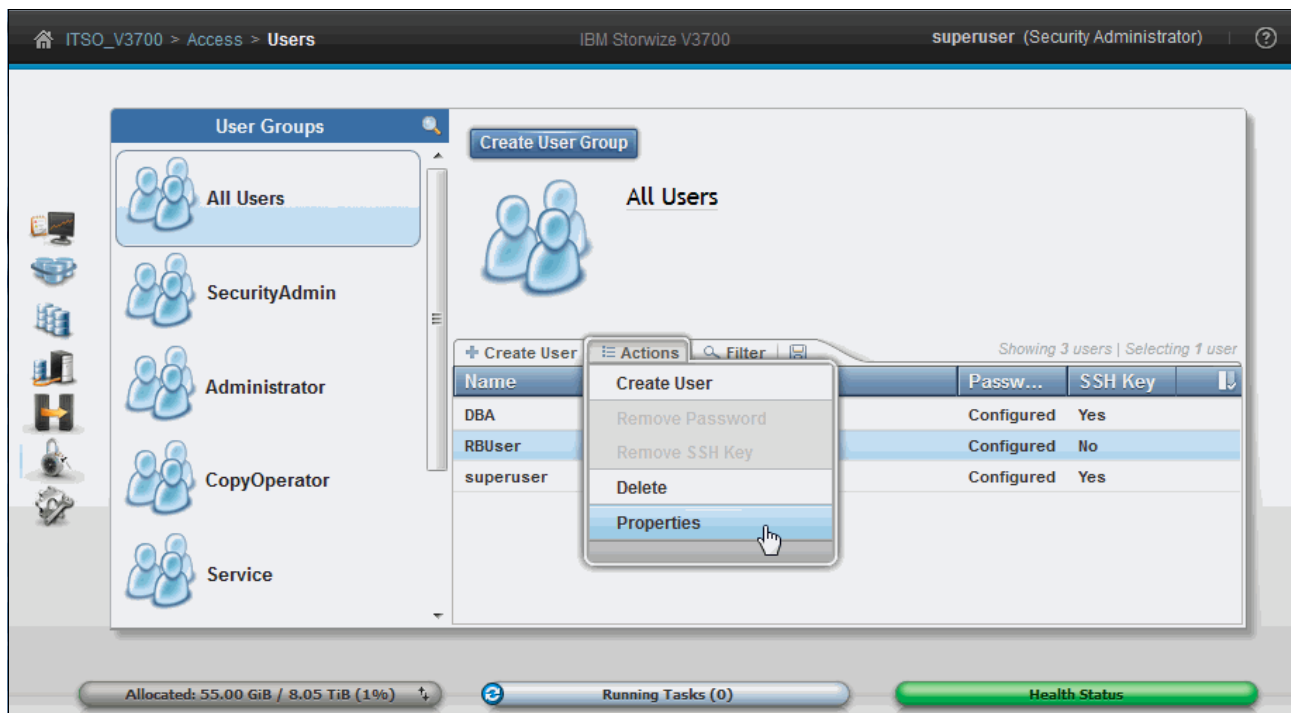

Figure A-7 User properties
2. Right-click the user you want to upload the key for, and click **Properties** (Figure A-7).